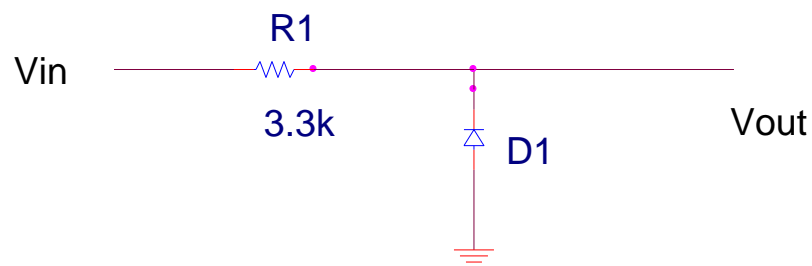

FIGURE 3
Given the circuit in Figure 3, **sketch by hand** (do not use LTspice) the input v_i and output v_o signals expected. Assume diode forward voltage drop is 0.6V.
Given the circuit in Figure 3, **sketch by hand** (do not use LTspice) the input v_i and output v_o signals expected if
3. Change the direction of the diode Figure 3 change the offset to 2V and plot the input output waveforms.